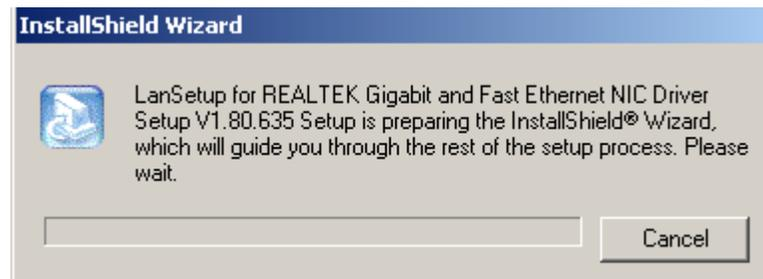

Figure 6-26: Preparing Setup Screen
Step 7: The **Install Shield Wizard** is prepared to guide the user through the rest of the process. See **Figure 6-26**.